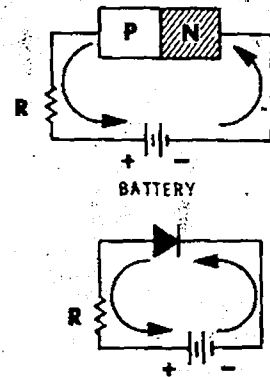

Figure 2-2
4. (direction) If we apply a dc voltage to the junction diode, current may or may not flow through it depending upon the polarity of the voltage. This applied voltage is called bias. Figure 2-2 illustrates one way in which a junction diode can be biased. The series resistor  $R$  limits the current to a safe level.
In Figure 2-2, electrons flow out of the negative terminal of the battery into the N-type material. If the battery voltage is high enough to overcome an inherent potential barrier associated with the junction, the electrons will cross the junction and fill the holes. As the holes in the P-type material are filled, new holes are formed as electrons are pulled from the P-type material by the positive terminal of the battery. The result is a continuous current flow through the device. This arrangement is known as forward bias.